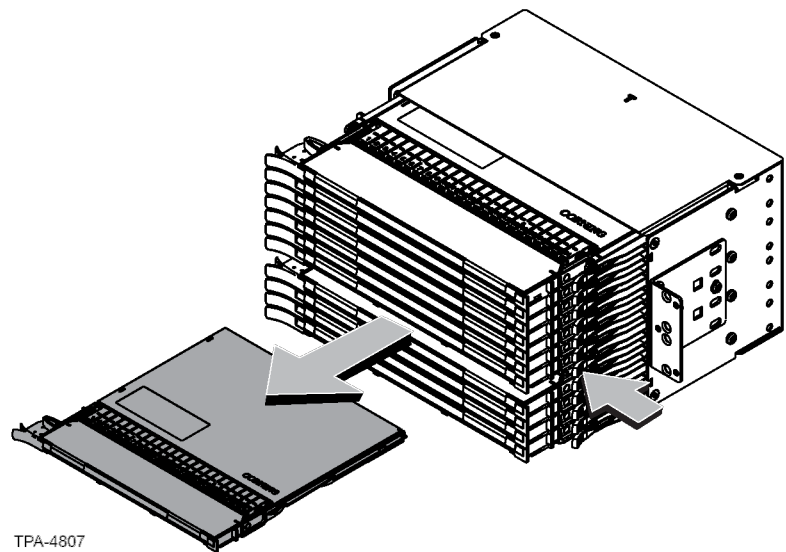

Figure 32
Step 1: If the cassette is installed in the housing, press the latch on the right side of the housing next to the cassette to be removed (Figure 32). Then pull the cassette out of the housing.